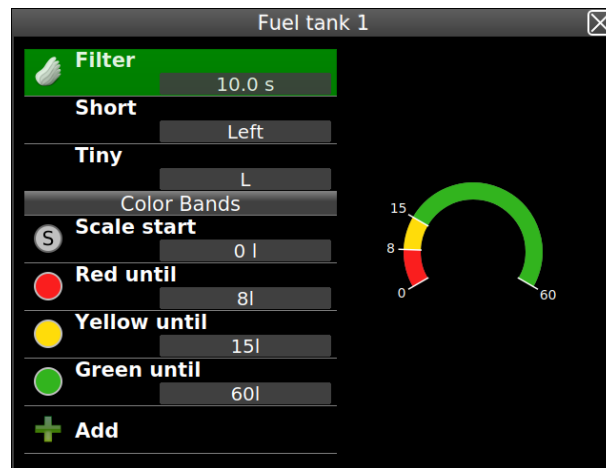

Figure 1: Typical setting of fuel tank limits for tank 1. Your limits will be different, but the principle is the same.
7. Select the *Fuel* option and then *Fuel tank 1*. Figure 1 illustrates an example, how the values shall be set. The limiting values in your case WILL be different. This is just an example. Please refer to the Nesis Installation manual for more details about how to tune the parameter limits.
8. Once limits are correct and your case is similar to one in Figure 1, write down the limiting values and close the window.